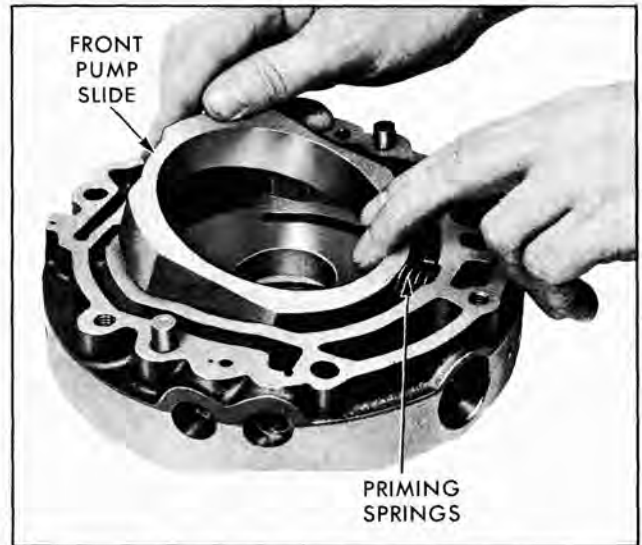

Fig. 103 Removing Pump Slide
8. Push slide toward priming springs, then lift it out of body at opposite end (Fig. 103).